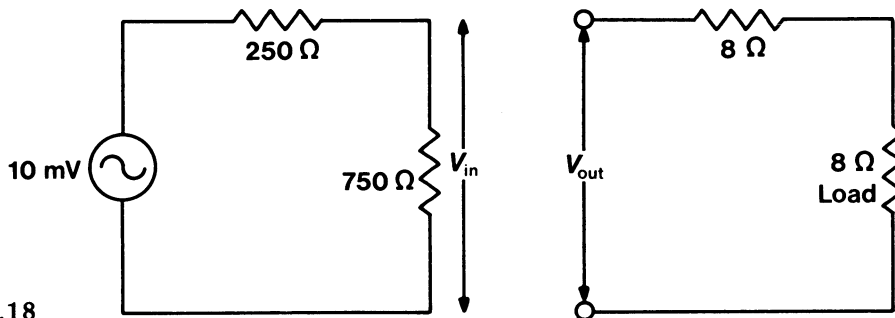

FIG. 4.18
51. Including the effects of input and output impedance in Fig. 4.18,